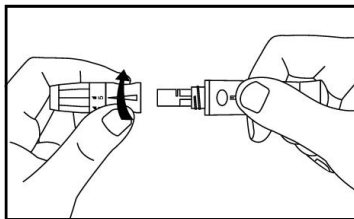

Fig. 22
Step 1: Unscrew the lancing device cover from the body of the lancing device.(Ref Fig. 22)